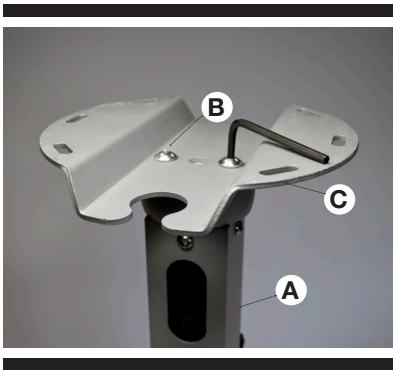

Fig. 1
Position parts (C) and (A) like in Fig. 1. Mount part (C) to part (A) using the 2 screws (G). Check that the space for the cables on the ceiling plate is mounted at the same side as the cable hole on the variable column.